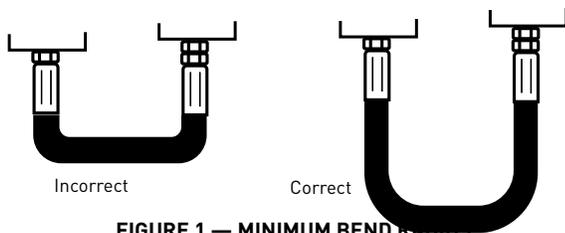

FIGURE 1 — MINIMUM BEND RADIUS
**5.21 Minimum Bend Radius** – The minimum bend radius is defined in SAE J343 and is specified in other SAE standards and hose manufacturer's product literature. Routing at less than minimum bend radius may reduce hose life. Sharp bending at the hose/fitting juncture may result in leaking, hose rupturing, or the hose assembly blowing apart (see 4.2 and Figure 1).